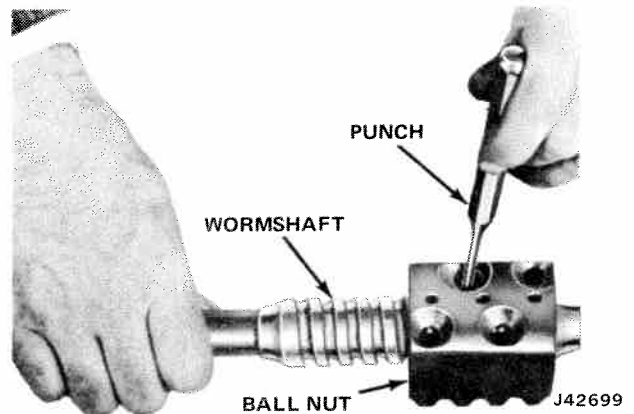

Fig. 11-39 Filling Ball Circuits
(1) Position ball nut on worm shaft so deep side of teeth will be toward side cover when shaft is installed in housing.
(2) Install 20 balls in each circuit. Rock worm shaft back and forth to aid in installation. Use a punch to install the balls (fig. 11-39).